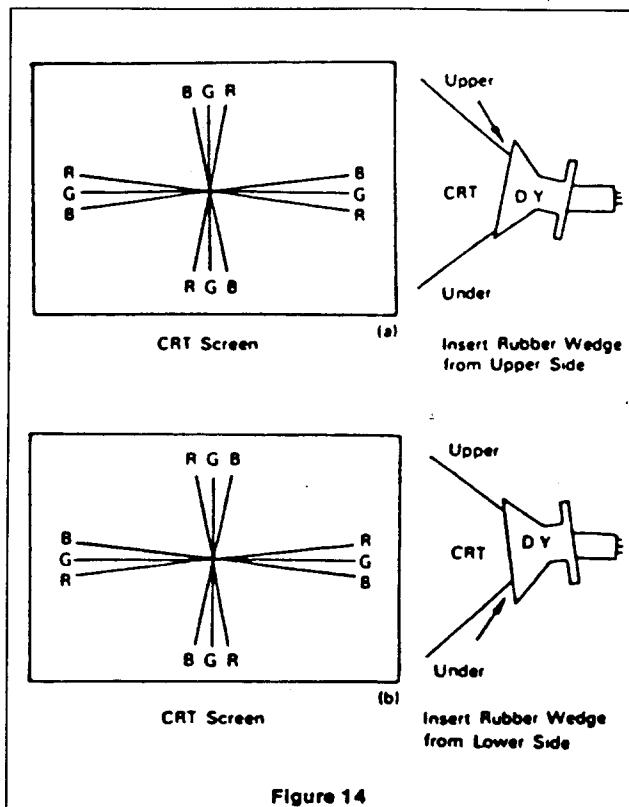

Figure 14
(See Figures 14 and 15)**
2. Insert the temporary wedge and fix Deflection Yoke so as to obtain the best circumference convergence (see Figures 14 and 15).
1. Tilting the angle of the yoke up and down adjusts the crossover of both vertical and horizontal red and blue lines. See Figure 14(a) and (b).